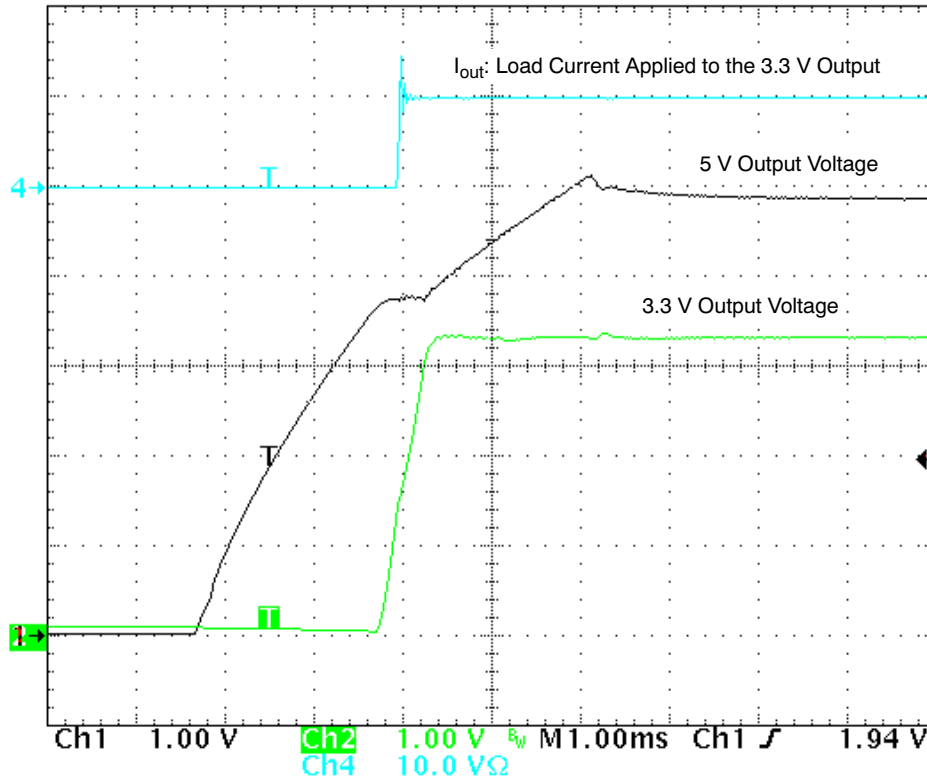

Figure 14. Start-up Sequence with 5 A Load on the 3.3 V Output
- 10 A (Figure 14) and 0 A (Figure 15) on the 3.3 V output.
In both situations (5 A on the 3.3 V - Figure 14 - and in no load - Figure 15), The 3.3 V voltage rise is monotonic. The delay between the 5 V and the 3.3 V rise is controlled by the Under-Voltage Protection. Practically, the pin4 voltage must exceed 2 V for operation otherwise the circuit is disabled. In our application, pin4 receives a filtered portion of the synchronization signal. The delay between the
In both situations (5 A on the 3.3 V - Figure 14 - and in no load - Figure 15), the 3.3 V voltage decay is monotonic. Also, the 3.3 V and the 5 V voltages start to drop simultaneously.